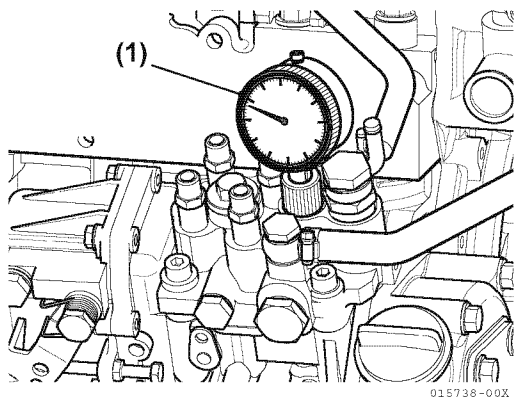

Figure 6-63
3. Note the reading on the dial gauge (**Figure 6-63, (1)**). If the reading is less than 2.5 mm (0.098 in.), the fuel injection timing is retarded. If the dial gauge reading is greater than 2.5 mm (0.098 in.), the fuel injection timing is advanced.